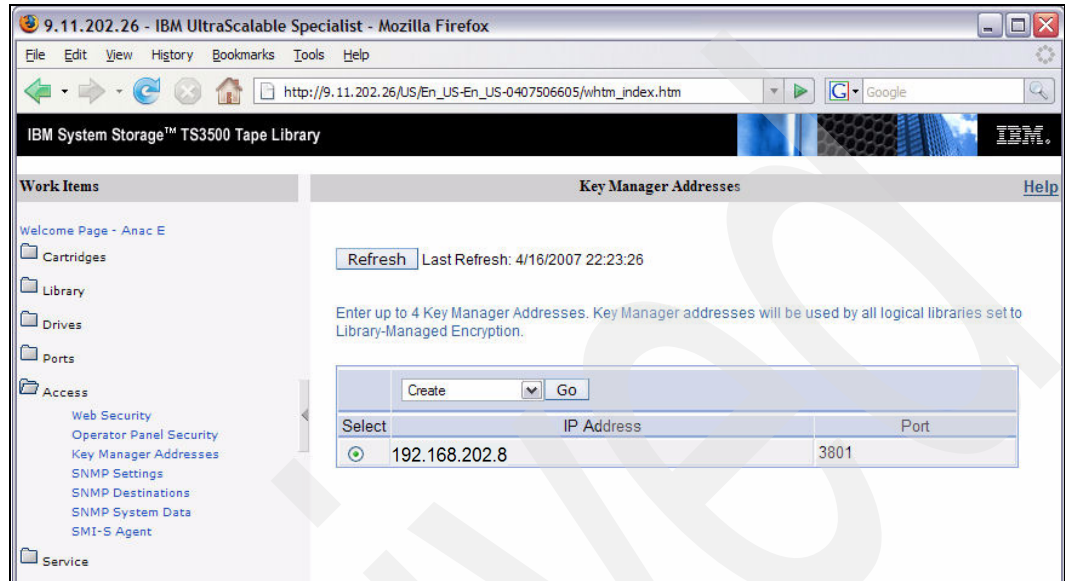

Figure 7-27 IBM TS3500 Tape Library - Key Manager Addresses window
- The ITS3500 Tape Library Specialist shows the newly created EKM address in the *Key Manager Addresses* window as shown in Figure 7-27.